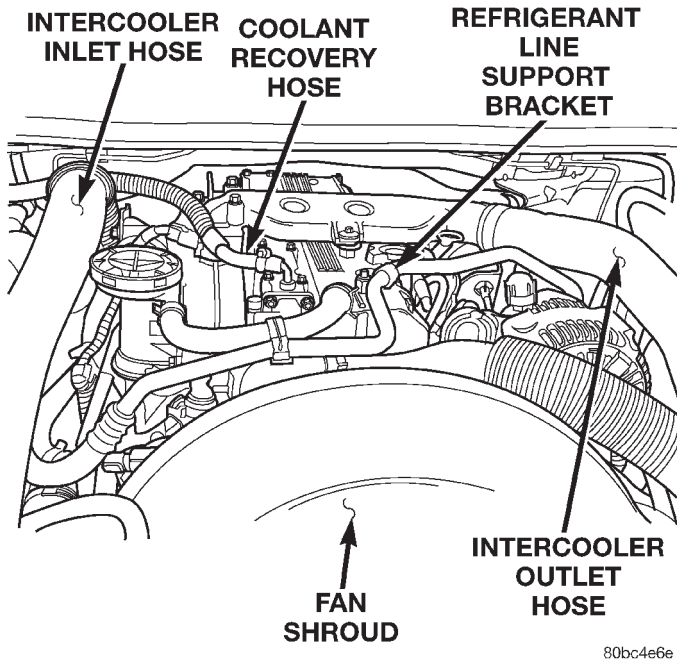

Fig. 8 Intercooler Hoses
- (26) Remove the intercooler inlet and outlet hoses from the vehicle (Fig. 8).